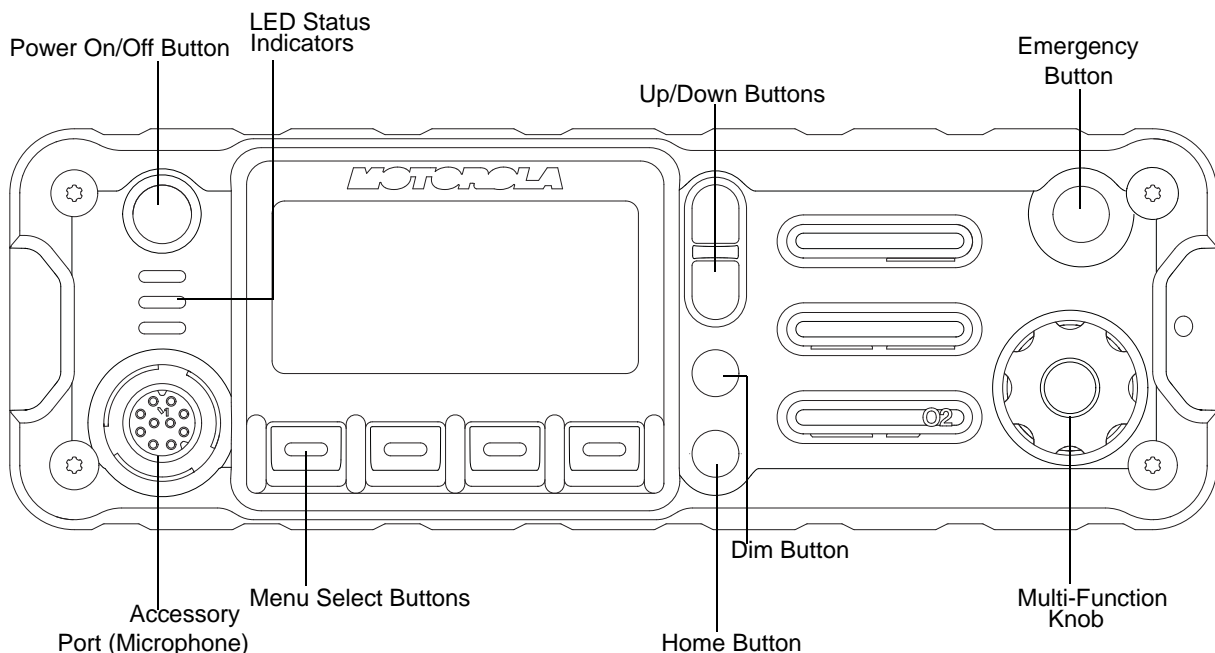
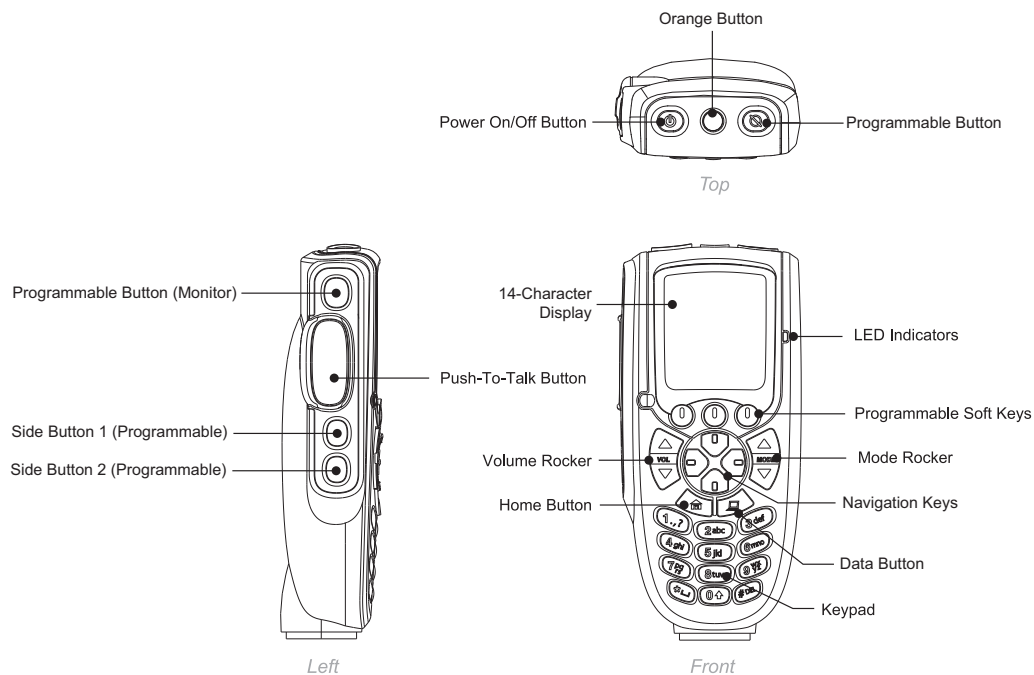
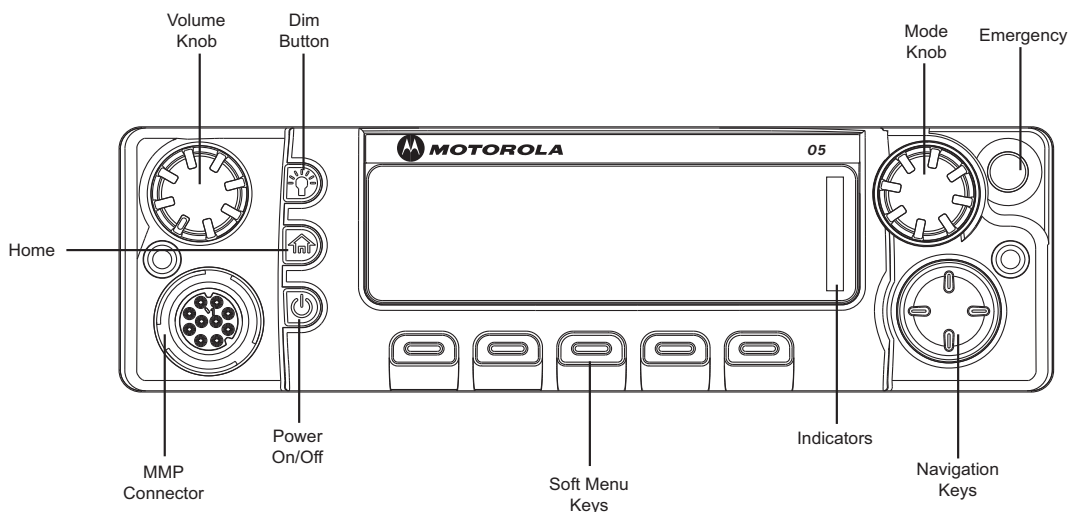

Figure 5-2. O2 Control Head
Figure 5-3. O3 Control Head
Figure 5-4. O5 Control Head
2. Within 10 seconds after Self Test is complete, press the **Home Button** five times in succession for O2/O5/O7/O9 Control Head (see Figure 5-2 for O2, Figure 5-4 for O5, Figure 5-5 for O7 and Figure 5-6 for O9 Control Head), or press the **Side Button 2** five times in succession for O3 Control Head (see Figure 5-3).